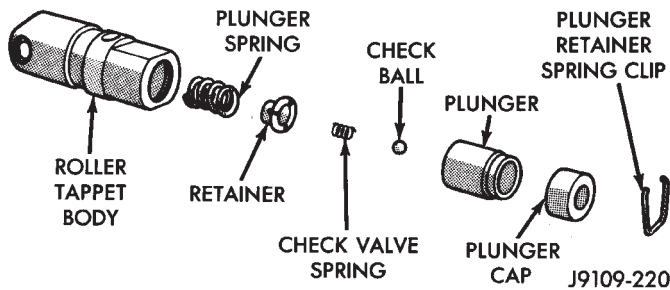

Fig. 26 Hydraulic Roller Tappet Assembly
DISASSEMBLY (FIG. 26)
(1) Clean all tappet parts in a solvent that will remove all varnish and carbon.
(2) Replace tappets that are unfit for further service with new assemblies.
(3) If plunger shows signs of scoring or wear, valve is pitted, or valve seat on end of plunger indicates any condition that would prevent valve from seating, install a new tappet assembly.
(4) Assemble tappets (Fig. 26).
(1) Lubricate tappets.
(2) Install tappets in their original positions.
(3) With roller tappets, install aligning yokes with (Fig. 26).